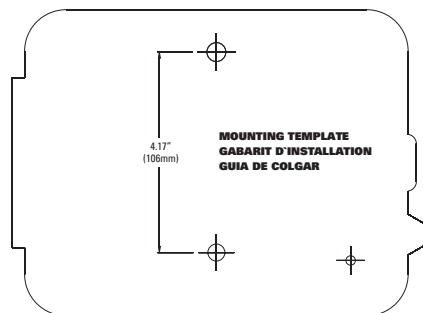

Figure 1: Use Mounting Template (included)
- Use the mounting template (included) to mark the mounting screw location on the wall. *See Figure 1.*